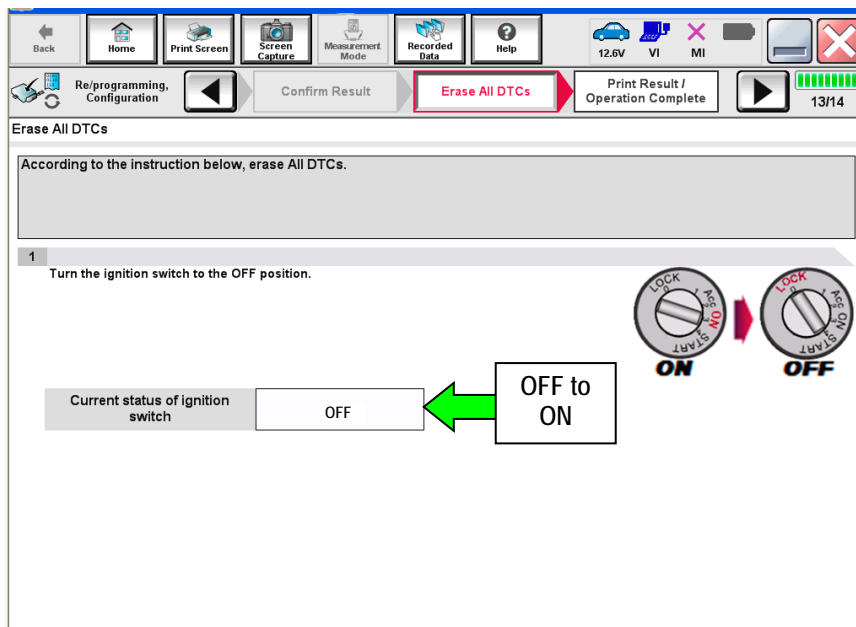

Figure 19
- The screen in Figure 19 will read ON after pressing the power switch twice.